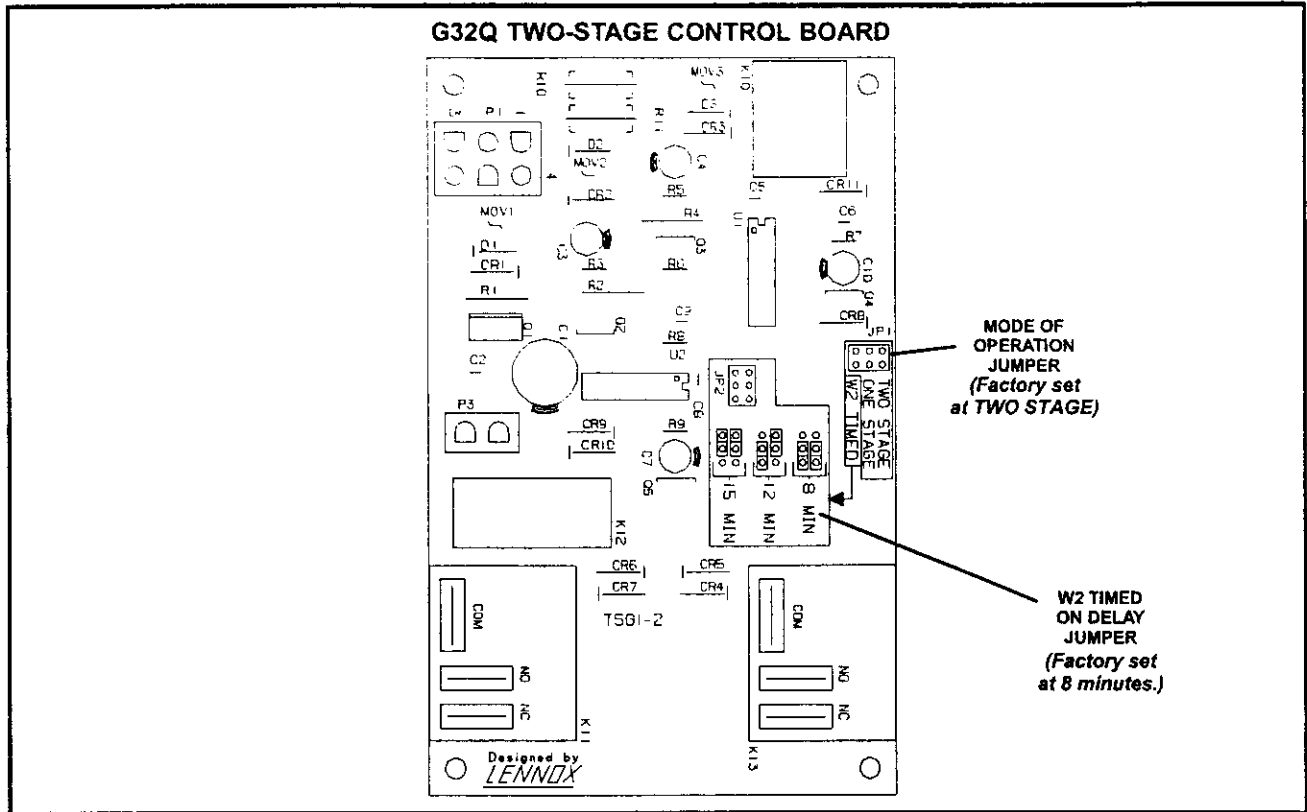

FIGURE 31
NOTE - To operate in this mode, the mode of operation jumper on the two-stage control board must be in the "ONE STAGE" position. See figure 31.
NOTE - To operate in this mode, the mode of operation jumper on the two-stage control board must be in the "W2 TIMED" position. See figure 31.
- 2 - Gas valve is energized on low heat (first stage). Ignition occurs and signal is sent from control module to two-stage control board to begin "W2 ON" delay (factory set at 8 minutes). See figure 31 for delay settings.